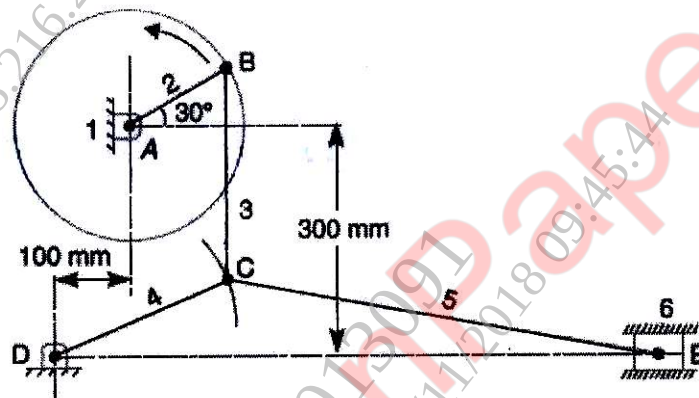

Fig. 1
5. (a) Locate all the instantaneous centers of the mechanism as shown in fig. 1. The length of links are $AB = 150 \text{ mm}$, $BC = 300 \text{ mm}$, $CD = 225 \text{ mm}$ and $CE = 500 \text{ mm}$. when the crank AB